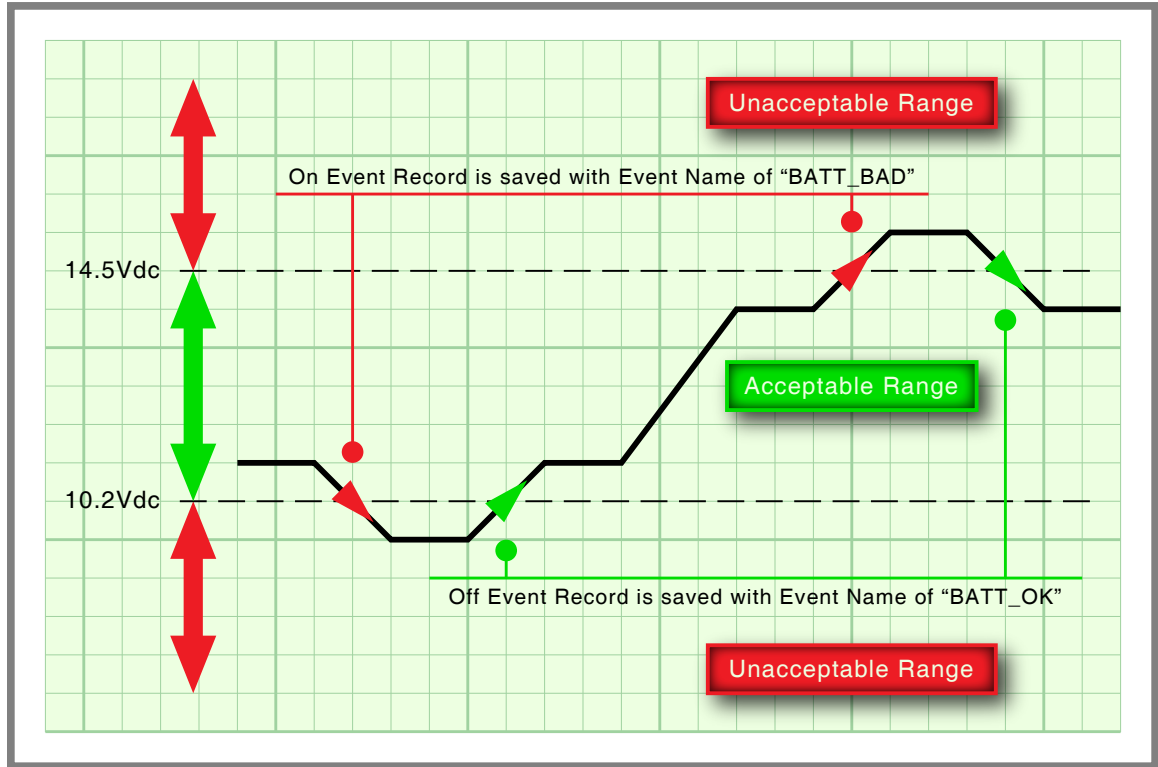

Figure 7: Analog Input Operating Ranges and Limit Values
Figure 7 on page 30 illustrates the relationship of the High and Low Limit Values to the Analog Input state. Each range defines the type of Event Record that is created by transitions of the input. The figure depicts an Analog Input configured to monitor a typical 12Vdc battery source. The figure indicates that the unacceptable range includes all voltages less than 10.2Vdc and all voltages greater than 14.5Vdc. The unacceptable range always consists of two portions separated by the acceptable range. If the input is within the range extending from 10.2 to 14.5Vdc the battery voltage is considered to be acceptable.
**On**—The Digital Input voltage is in the range from 9 to 36 Vdc. The Analog Input level is outside the acceptable range as defined by the region between the Limit Values. Refer to Figure 7 on page 30. The Virtual Input evaluates to a true logic state. The Timer Input has reported a timed interval that is either too fast or too slow as compared to its assigned High and Low Limit Values, respectively. Refer to the section entitled "Timer Inputs \(W\)" on page 30.